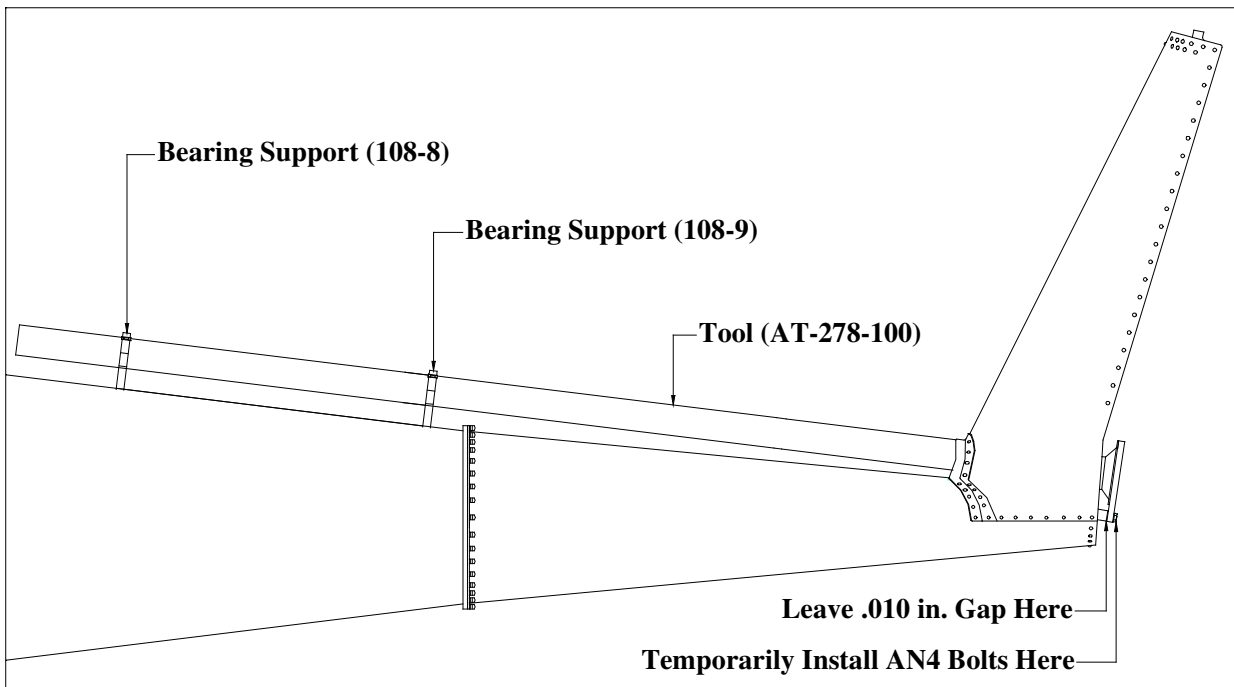

Fig. SB-106-5 Aft End Alignment Tool (AT-278-100) Installation
- 3.3 Leave at least a .010 in. gap between the mounting flange and bulkhead. Install at least the two aft bearing supports (108-8 & 108-9) in place and snug the bolts. See fig. SB-106-5.